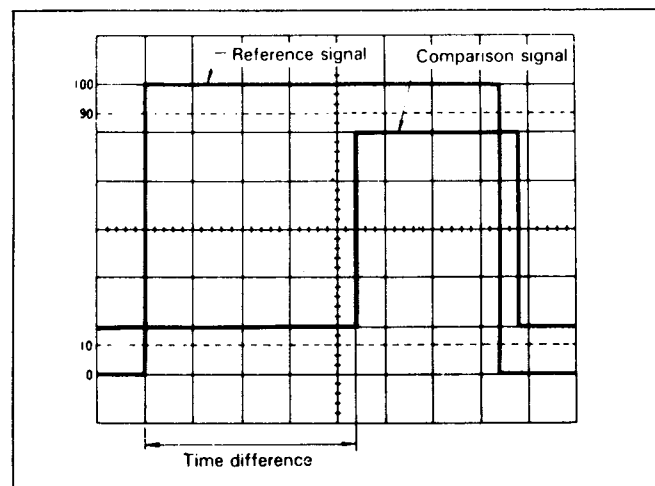

Fig. 11. Time Difference Measurement.
(Refer to Fig. 11)
3. Use the Adapter **POSITION** controls to superimpose both waveforms to intersect the center horizontal graduation line as shown in Fig. 11. Use the oscilloscope horizontal position control to set the reference signal coincident with one of the vertical graduation lines.
For the example shown in Fig. 11, the horizontal distance measured is 4.4 divisions. If the Adapter **TIME/DIV** setting is **0.2 ms** and sweep magnification is not used, the time difference is calculated as follows: